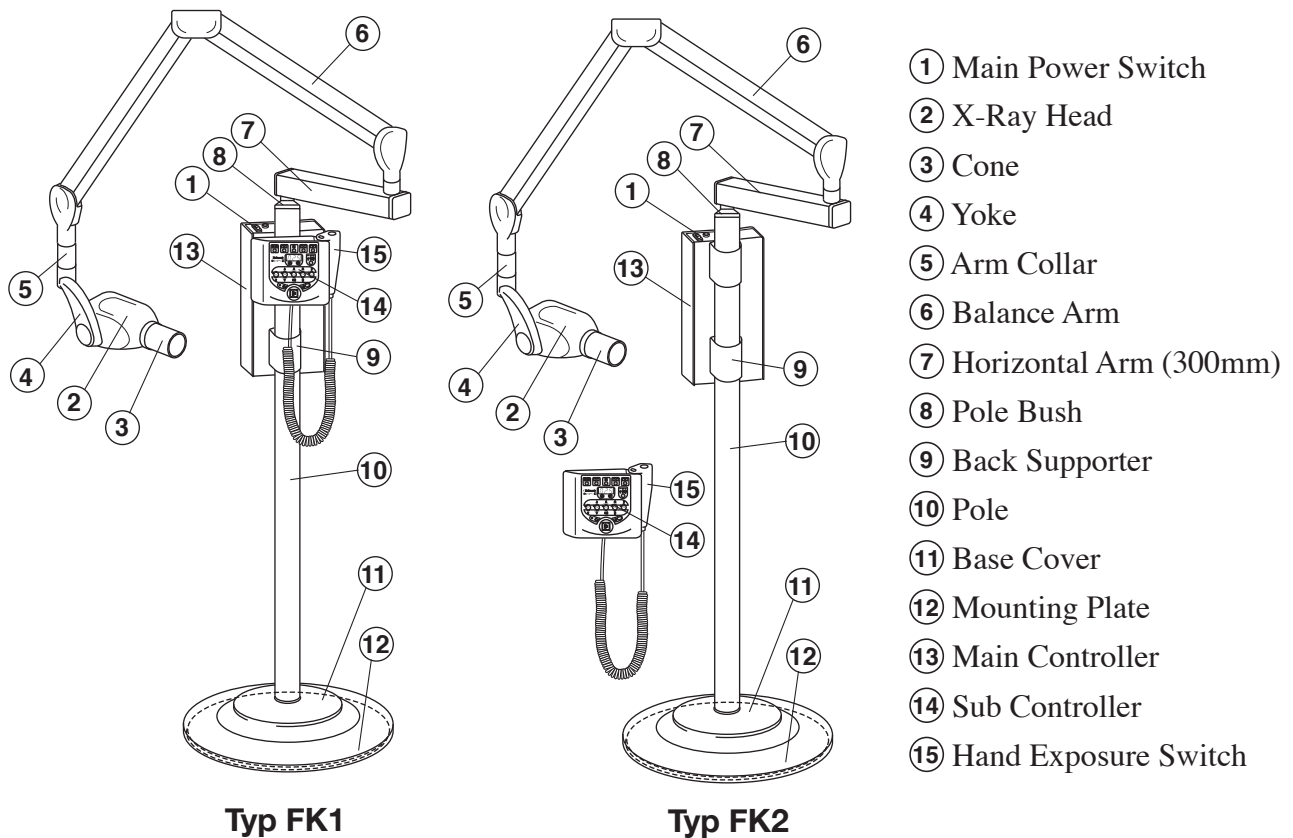

Fig.2-1 Major Components for FK1/FK2
① Main Power Switch (Fig.2-1 ~ Fig.2-5)